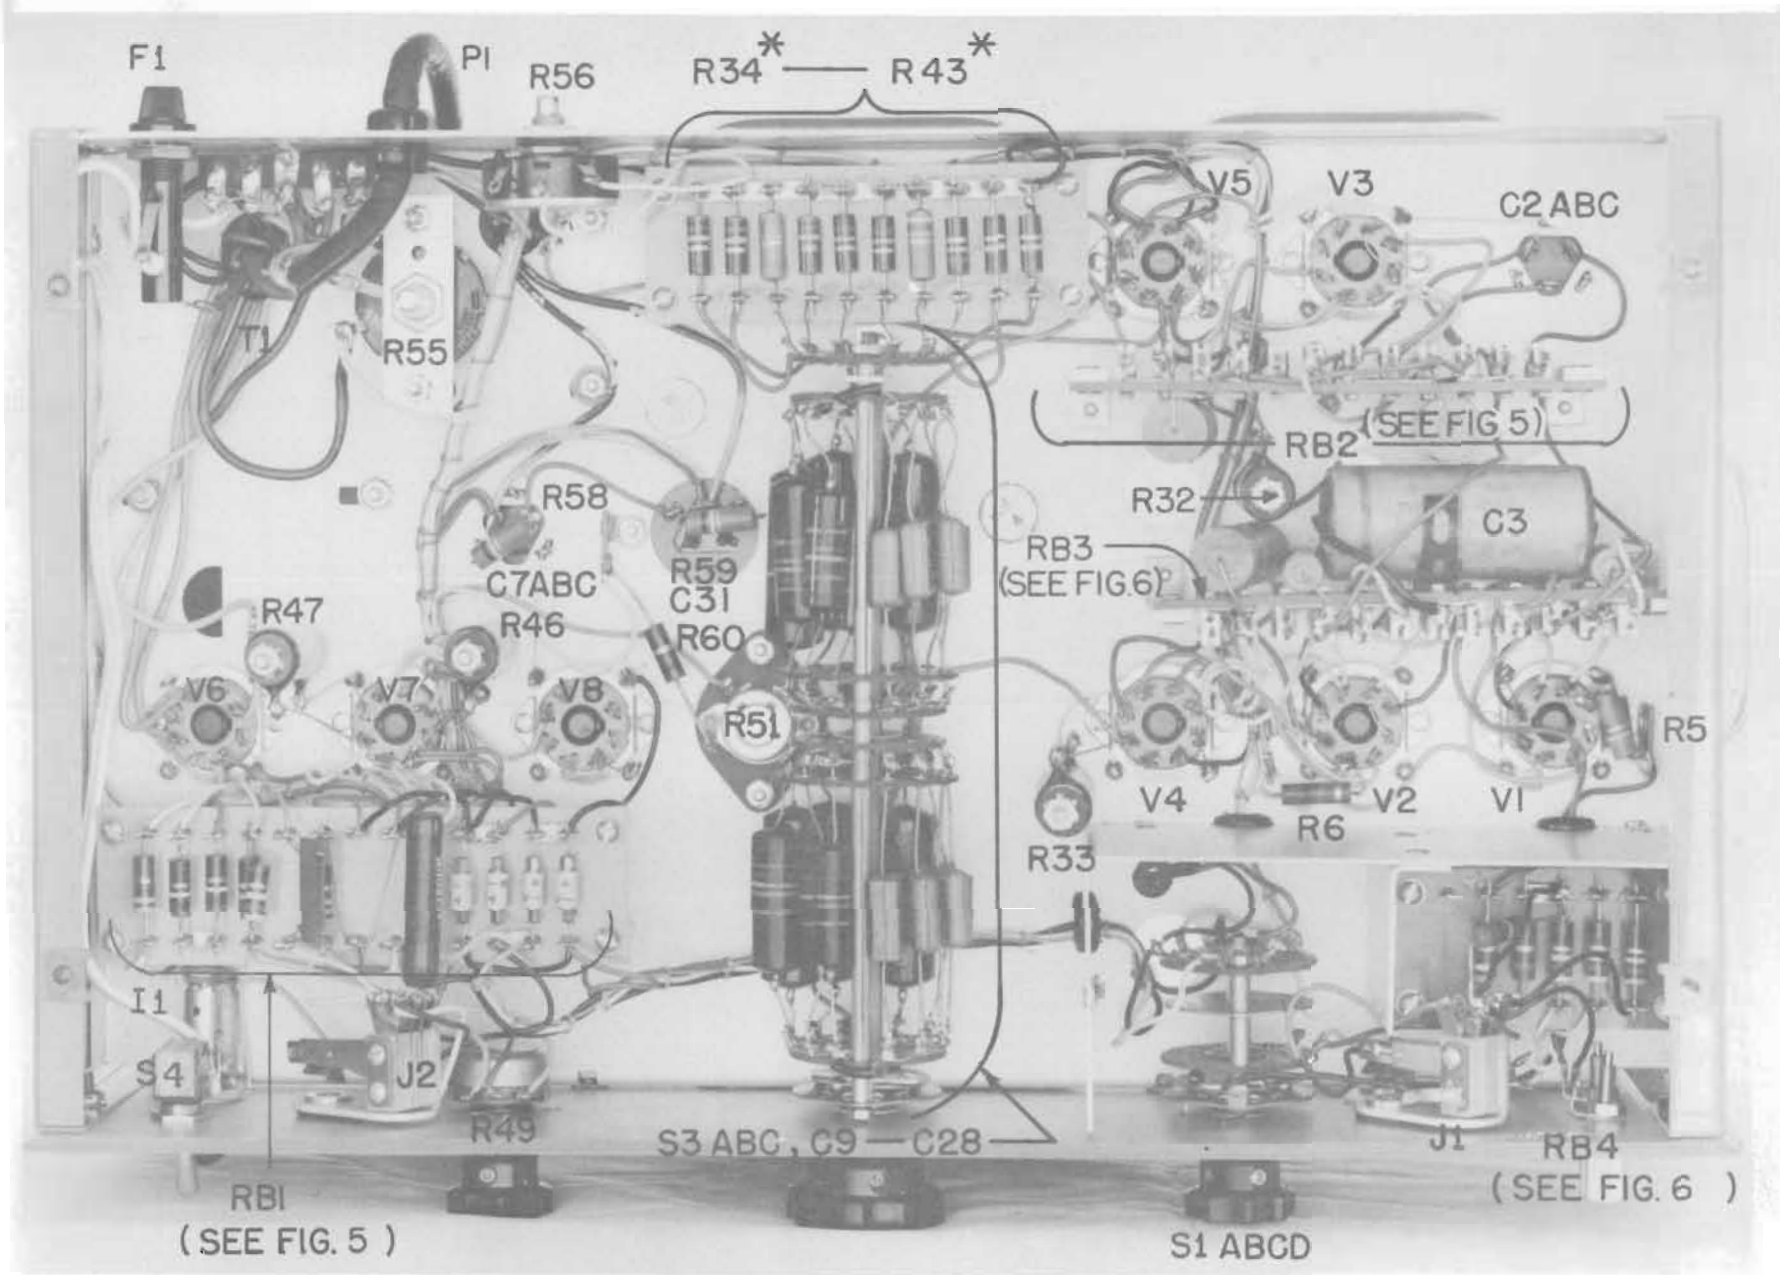

Fig. 4. Model 500A Bottom View Bottom Plate Removed
2. Plug the lead from the recorder into the RECORDER jack. If the meter (M1) indication is not the same as noted in step 1, adjust R56 (See Fig. 4) so as to produce the same indication as in step 1. When the recorder is disconnected from the RECORDER jack, resistor R56 is removed from the circuit and R53 substituted so that the accuracy of the Model 500A is not impaired.
3. Adjust variable resistor R55, located underneath the chassis and reached by removing the bottom plate (see Fig. 4, for minimum meter (M1) indication.